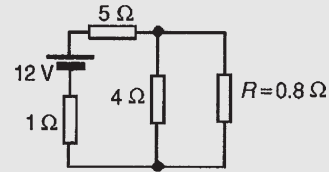

Figure 13.39
**Problem 8.** For the network shown in Fig. 13.39 determine the current in the  $0.8\Omega$  resistor using Thévenin's theorem.